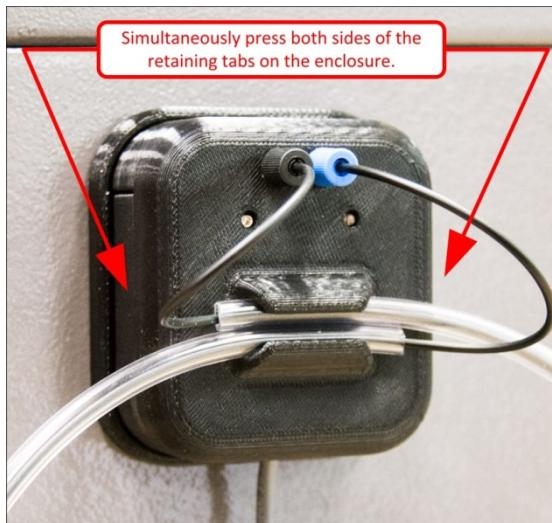

Figure 7: AFOS-WL Installed
There are two main parts of the assembly; (1) Enclosure, (2) Cradle. The enclosure houses the electronics and termination points for field installation with 4 screws to retain a back cover plate (refer to Figure 6). The cradle is attached to the asset and retains the enclosure when fully installed (refer to Figure 7).
Step 2. Locate the Bluetooth pairing button on each device (See **Figure 10 - Receiver pairing button** & **Figure 7: AFOS-WL Installed**). Note that you will have to press both buttons within 60 seconds of one another in the following steps so read all of the instructions before proceeding.